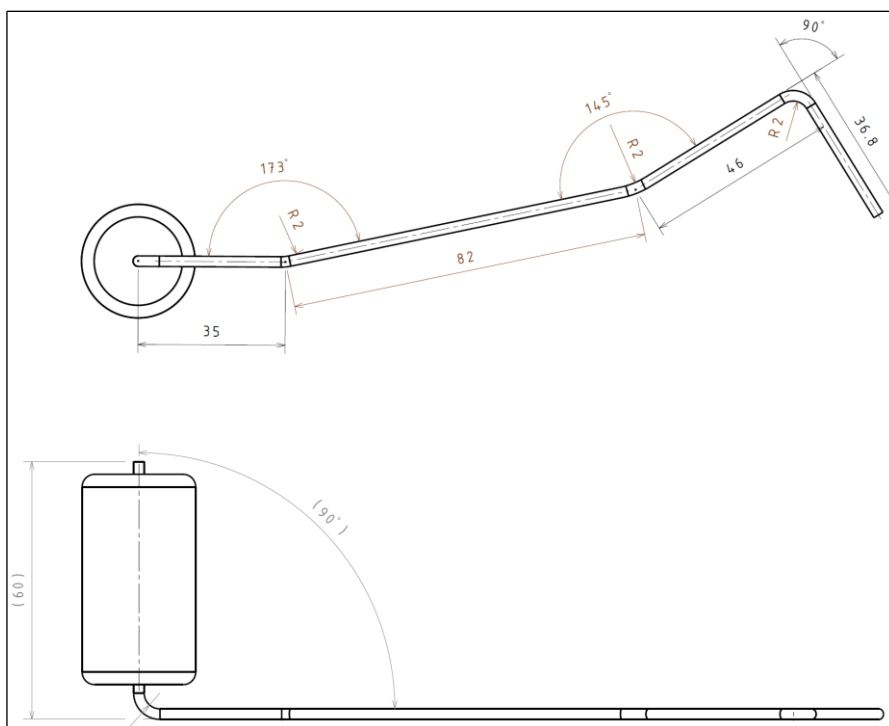

Figure 5 *Float Mechanism*
- Set position and length of the fuel level sender lever according to Fig. 5.